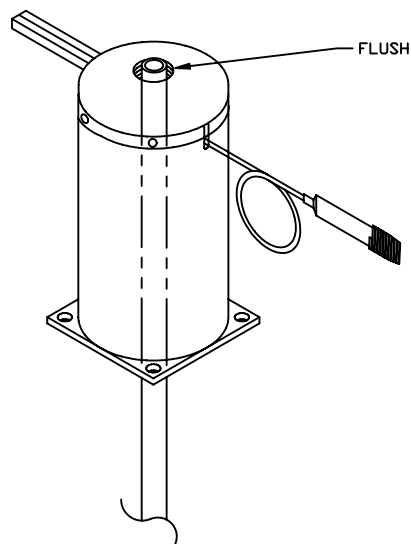

Figure 4
13. Inspect the 1/4" Vespel ferrule, which is located on the Inconel tube in the middle of the burner casing. Replace this ferrule if it is cracked or worn. The placement of this ferrule should be such that the Inconel tube lies flush with the top of the casing, refer to Figure 4.